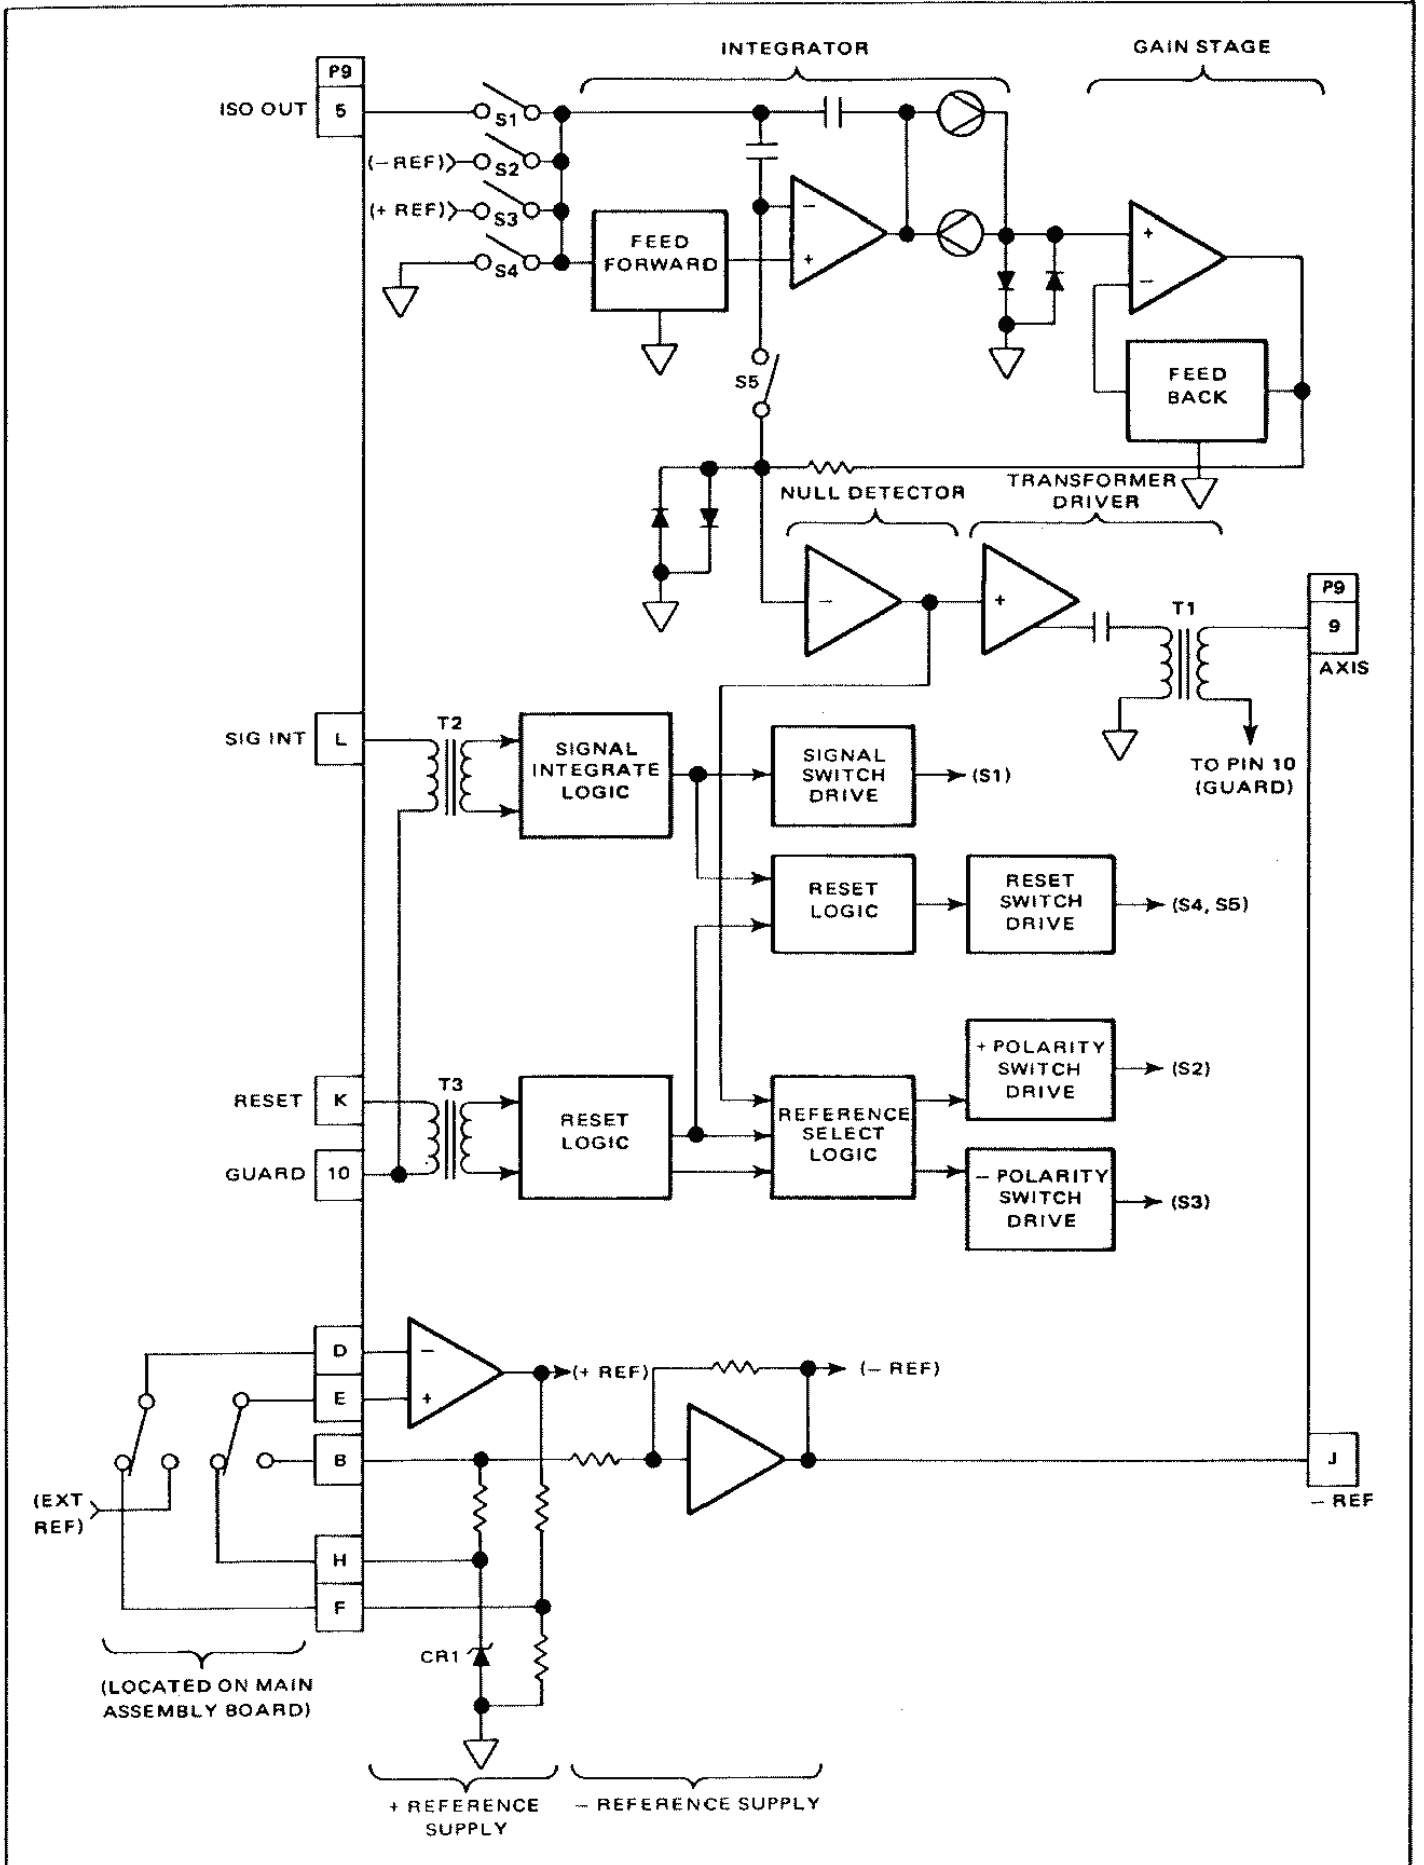
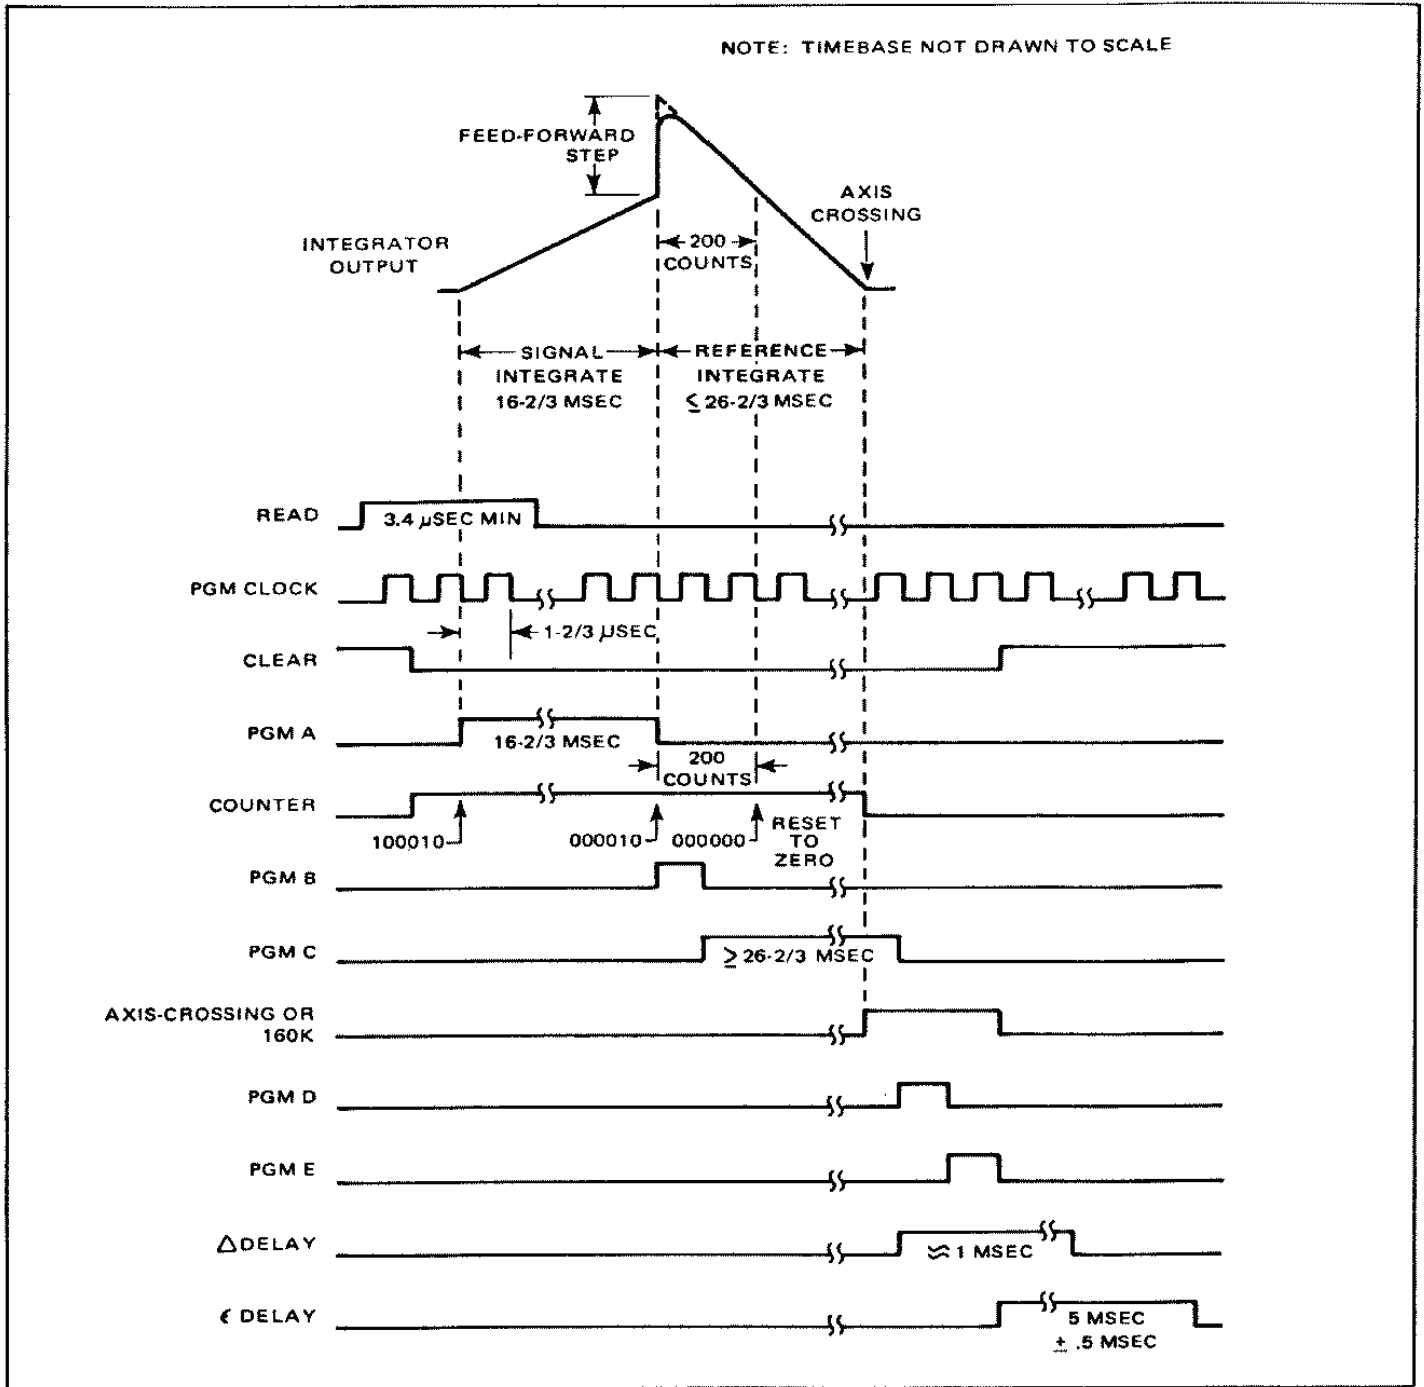

Figure 4.12 - Digitizer
Figure 4.13 - Integration Timing Diagram
periods. The circuitry used to perform this task include both the Digitizer and portions of the Display/Logic section. In the Digitizer, shown in simplified form in figure 4.12, this is reflected as an adjustment to the basic shape of the integrator output signal as shown in figure 4.13. The 'delay' portion of the integration cycle is initiated immediately following the signal integrate period and is the result of two factors. First, an analog level equal to 180 digits and of a polarity that resists the axis crossing from occurring, is produced at the integrator output by a network called the feed forward circuitry. Second, a capacitor in the feedback network of the gain stage that follows the integrator adds to the total delay period. The total effect is a fixed delay of the axis crossing signal of 200 digits.
4.41 The integrator switches consist of junction FET's, controlled by circuitry located on the Digitizer. Referring to figure 4.12, switch S1 conducts during the signal integration period, switch S2 or S3 during reference integration and S4 and S5 during reset. The output of the integrator is coupled to the following Gain Stage through two FET's connected as current generators. The purpose of these generators is to prevent loading of the Integrator while maintaining reasonable coupling to the gain stage input.
4.51 The Digitizer Logic receives its timing information through isolating data transformers T2 and T3. The logic converts this information into control signals that operate the FET switches. The timing of the input data and switch operation is provided in figure 4.13.